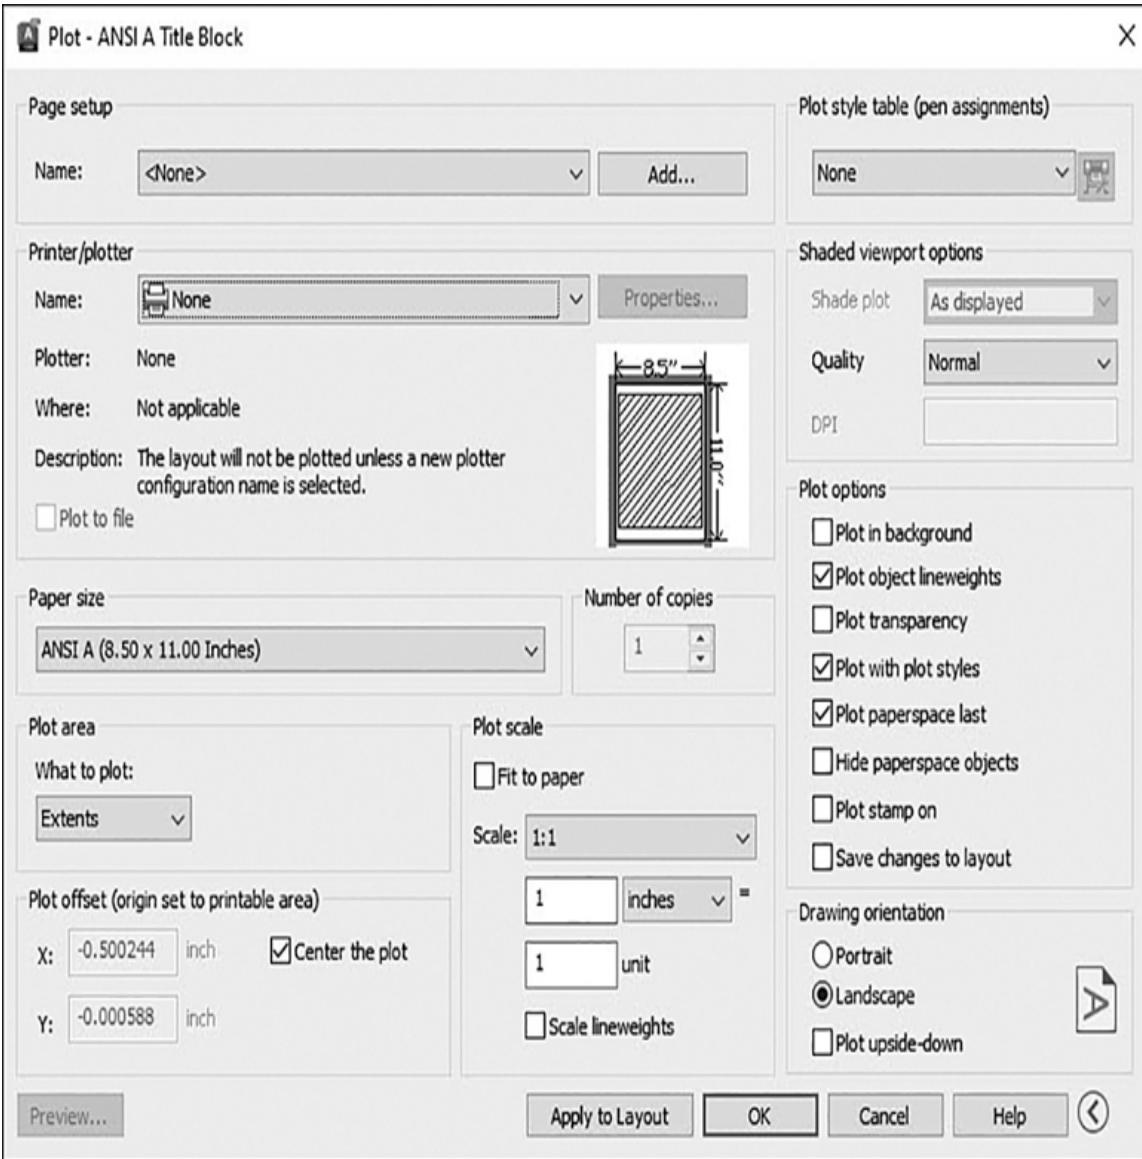

Figure 2-62
When you plot a drawing in AutoCAD, you are presented with the **Plot** dialog box (see Figure 2-62). The **Plot** dialog box has all the same options as the **Page Setup** dialog box (in fact, you can use the **PLOT** command to create page setups). These options allow you to make last-minute changes to your page setup or temporarily override settings
- 1** Choose the **Plot** tool from the **Plot** panel. The **Plot** dialog box appears (see Figure 2-62). If your dialog box looks different, choose the arrow next to the **Help** button at the bottom to expand the dialog box and see all options.